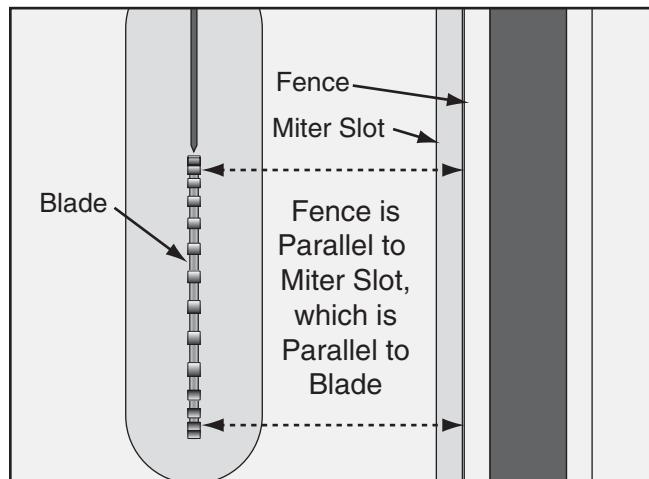

Figure 119. Checking fence parallelism with blade.
2. Slide the fence up against the right hand edge of the miter slot, lock it in place, then raise the blade above the insert. Using a fine ruler, examine how the fence lines up with the miter slot and the blade, as shown in **Figure 119**.
- If the fence *is* parallel with the miter slot/blade, as shown in **Figure 119**, no further adjustments need to be made.